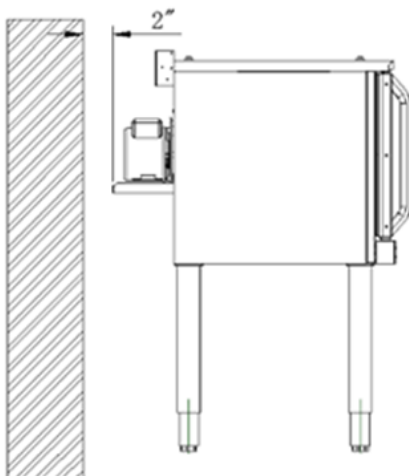

Fig.1
5. Install the unit at least 2" (50.8mm) from the wall if the wall does not bear a minimum temperature of 302F (150°C) (see Fig.1). If the unit is placed very close to the wall, partition walls, kitchen cabinets, decorative walls, etc., we recommend that they be made with a non-combustible material with proper thermal insulation. Pay a lot of attention to regulations concerning fire prevention.